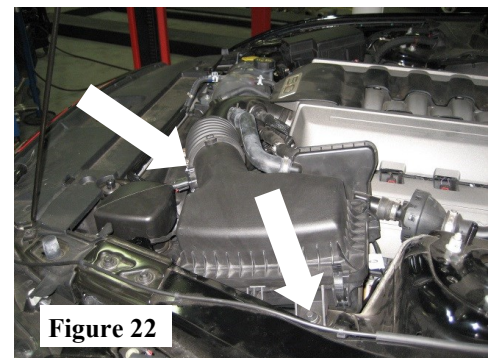

Figure 22
23. Place upper portion of air cleaner assembly back in vehicle. Seat intake tube and tighten hose clamp. Install sensor harness connector and re-connect acoustic tube. (See Fig. 22)